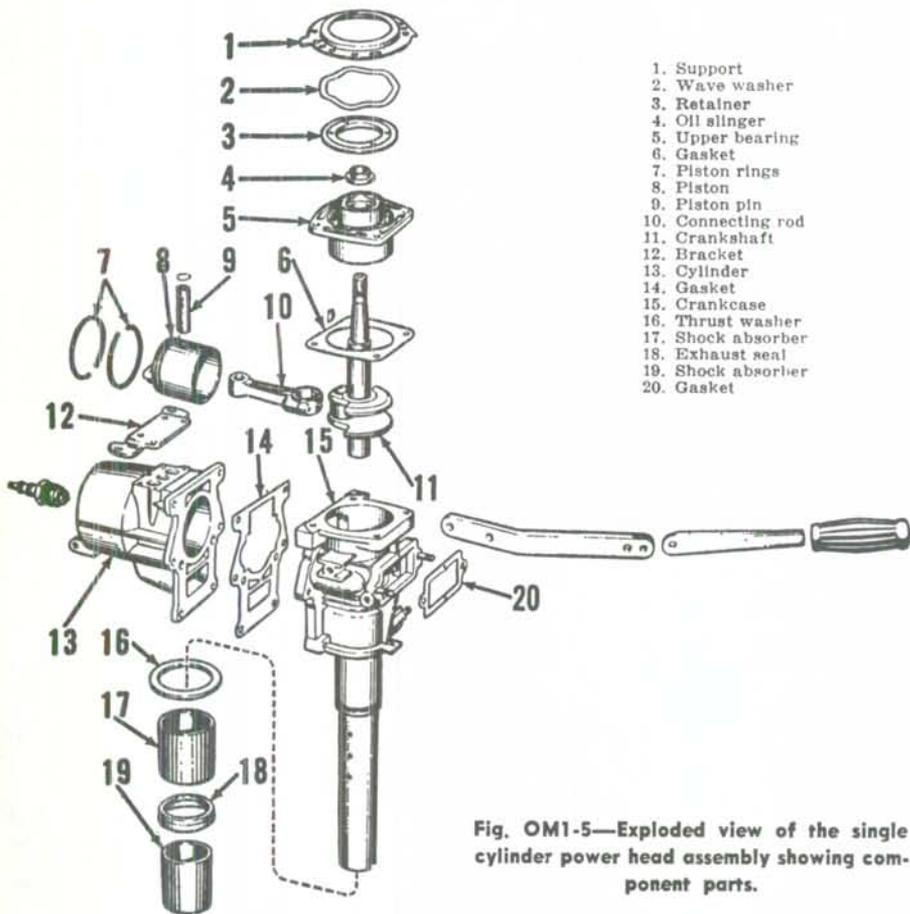

Fig. OM1-5—Exploded view of the single cylinder power head assembly showing component parts.
R&R AND DISASSEMBLE. The power head crankcase and drive shaft tube are a one piece assembly and should not be separated. To remove the power head from lower unit, loosen the shock absorber clamp screw and the driveshaft tube clamping screws and lift the driveshaft tube up out of lower unit. Refer to Fig. OM1-5.
The connecting rod rides directly on the crankshaft crankpin. Crankshaft main bearings are cast into crankcase (15—Fig. OM1-5) and upper bearing assembly (5). If clearance is excessive, renew the castings and/or crankshaft.